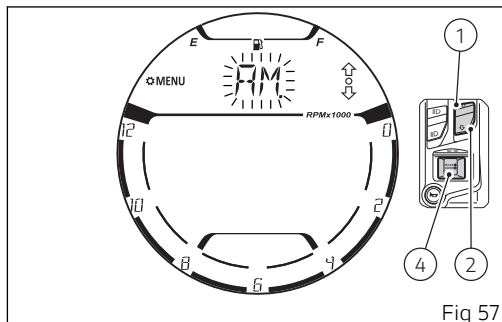

Fig 57
The first parameter that can be modified is AM / PM. The value currently set is displayed flashing (Fig 57). Use buttons (1) and (2) to toggle from "AM" to "PM" and vice versa.